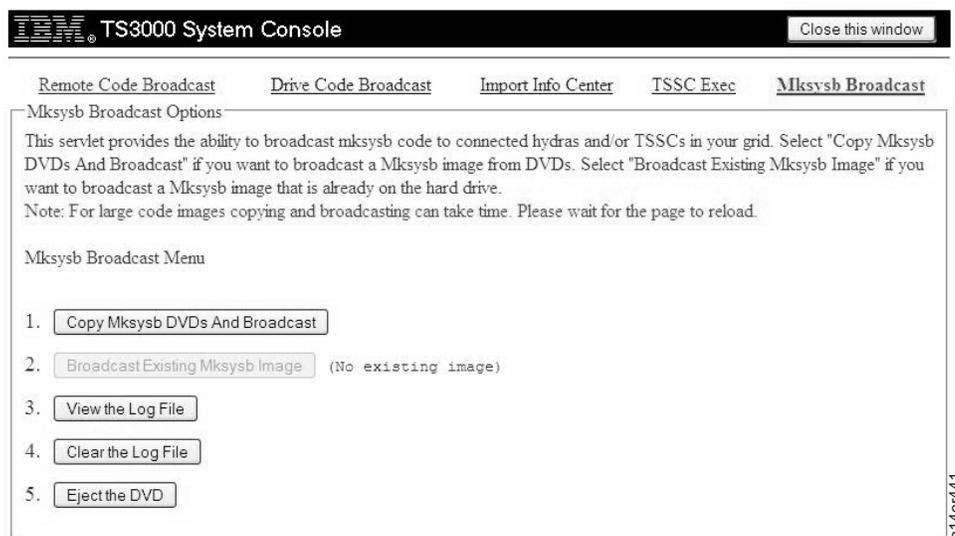

Figure 231. Mksysb Broadcast Screen
- Select **System Tools > Mksysb Broadcast**. See Figure 231 on page 184. Make the appropriate selection(s) as follows: